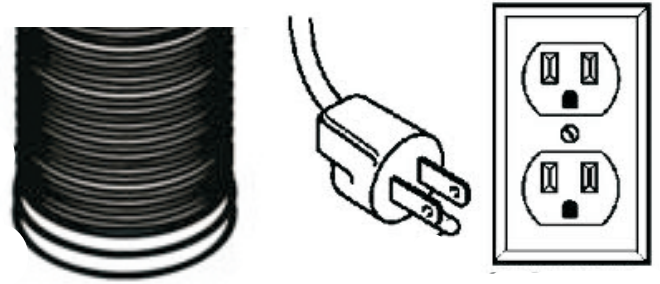

fig. 4
Step 5: Make your electrical and ducting connections. Use 6" rigid duct wherever possible. Try and minimize the use of elbows. More elbows and longer runs create higher static pressure. The hood comes with a grounded three prong plug that can either be direct wired or plugged into a 20 amp. circuit. fig. 4